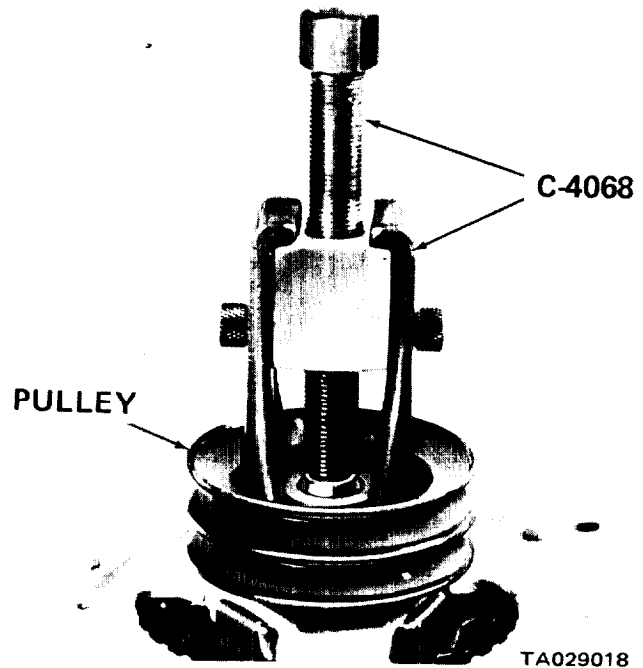

Figure 14-9. Removing Pulley.
(1) The pulley is pressed on the rotor shaft. Remove the pulley with puller tool C-4068 (figure 14-9).